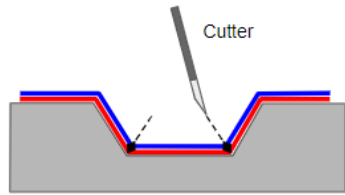

Fig.9
- With the help of a cutter, cut the edges where the material has built too much tension during application. Gently follow the form to obtain a straight and clean cut. This will release the tension and avoid the material from popping out of the recess. *Fig.9*